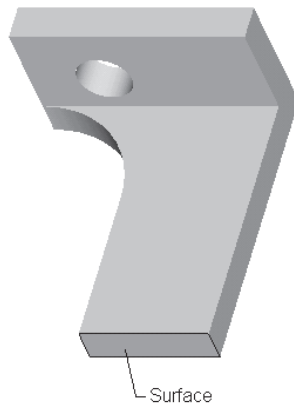

Figure 5-38 Planar surface selected as the sketching plane for the third feature
2. Select the planar surface of the second feature shown in Figure 5-38 as the sketching plane. The **DIRECTION** submenu is displayed. Choose **Okay** from this menu. The **SKETCH VIEW** submenu is displayed.